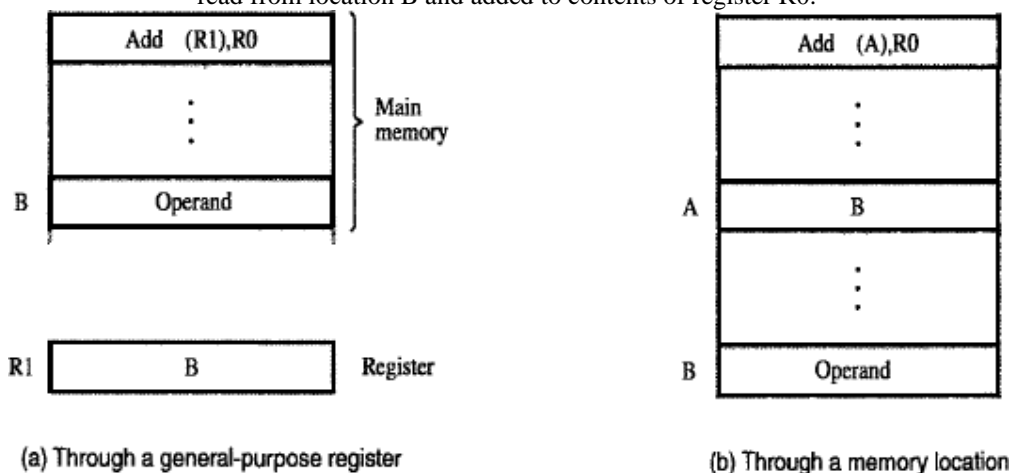

Figure 2.11 Indirect addressing.
- To execute the Add instruction in fig 2.11 (a), the processor uses the value which is in register R1, as the EA of the operand.
- Indirect addressing through a memory-location is also possible as shown in fig 2.11(b). In this case, the processor first reads the contents of memory-location A, then requests a second read operation using the value B as an address to obtain the operand.